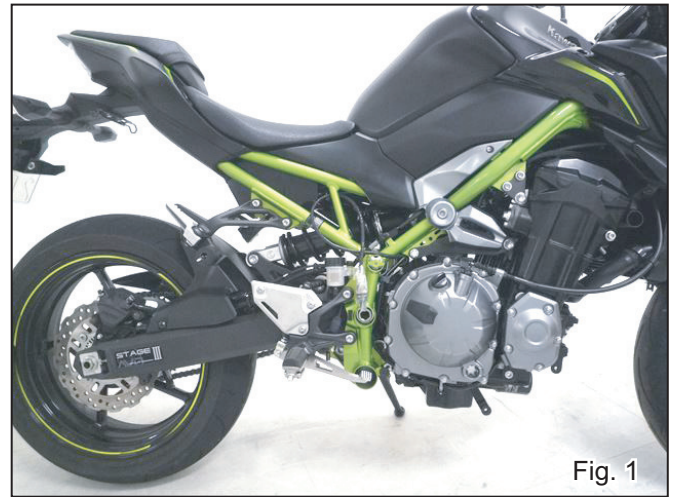

Fig. 1
- 2) According to Genuine service manual, disconnect O2 sensor coupler from vehicle and then remove whole exhaust system from vehicle after taking O2 sensor off from stock exhaust system. (See Fig. 1)